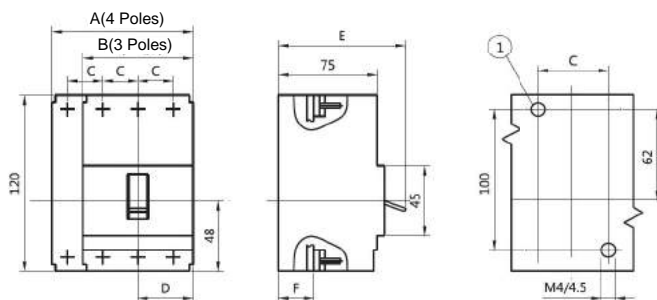

Fig 4
6.1.1 Outfit and install dimension of Fixed install circuit breaker of board front-connect, See Fig 4.